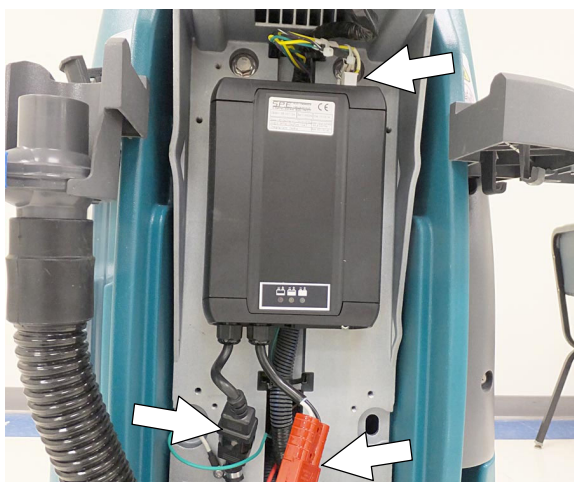

FIG. 84
4. Disconnect the battery cable, power cord and wire harness from charger. Using a T25 star screwdriver, remove the four screws that mount charger to machine (Figure 84). Remove charger from machine.